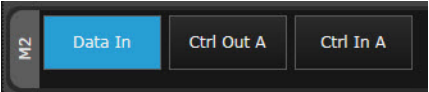

Figure 26 Select M8046A DataIn
- 13 Click on **Data In** corresponding to the M8046A(M2) as shown in Figure 26 on page -52.